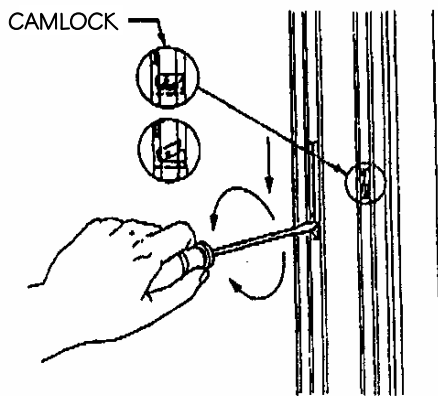

FIGURE 8
9. Using a flat tip screwdriver, pull down the 4 spring-loaded camlocks (located in the jambliners) approximately 8 to 10 inches from the sill. Re-engage the locked position by rolling the screwdriver clockwise on the right jamb and counterclockwise on the left jamb. See Figure 8.